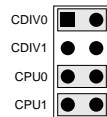

Figure 11.2 Hardware option jumper (J24) positions
- *J24*: a 3-link jumper, whose link layout is shown in Figure 11.2.